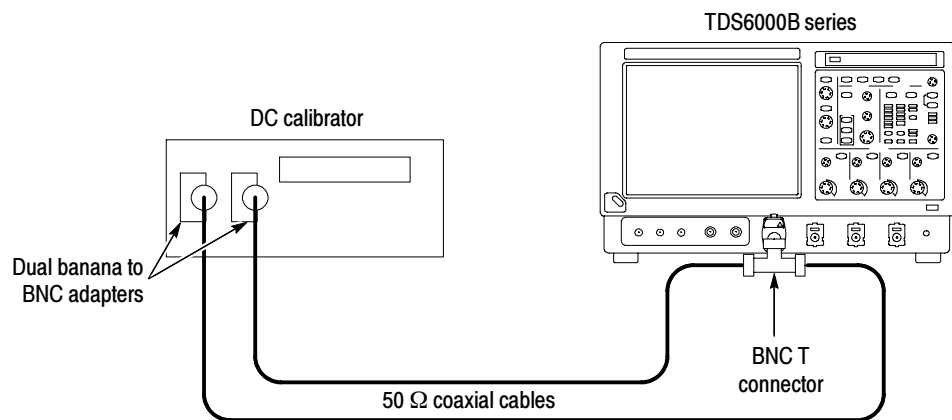

Figure 4-25: Subsequent test hookup
- Connect the output of a DC calibration generator through a dual-banana connector followed by a 50 Ω precision coaxial cable to one side of a BNC T connector. See Figure 4-25.
- Connect the Sense output of the generator through a second dual-banana connector followed by a 50 Ω precision coaxial cable to the other side of the BNC T connector. Now connect the BNC T connector to **CH 1** through a TCA-BNC or BNC-to-SMA adapter. See Figure 4-25.